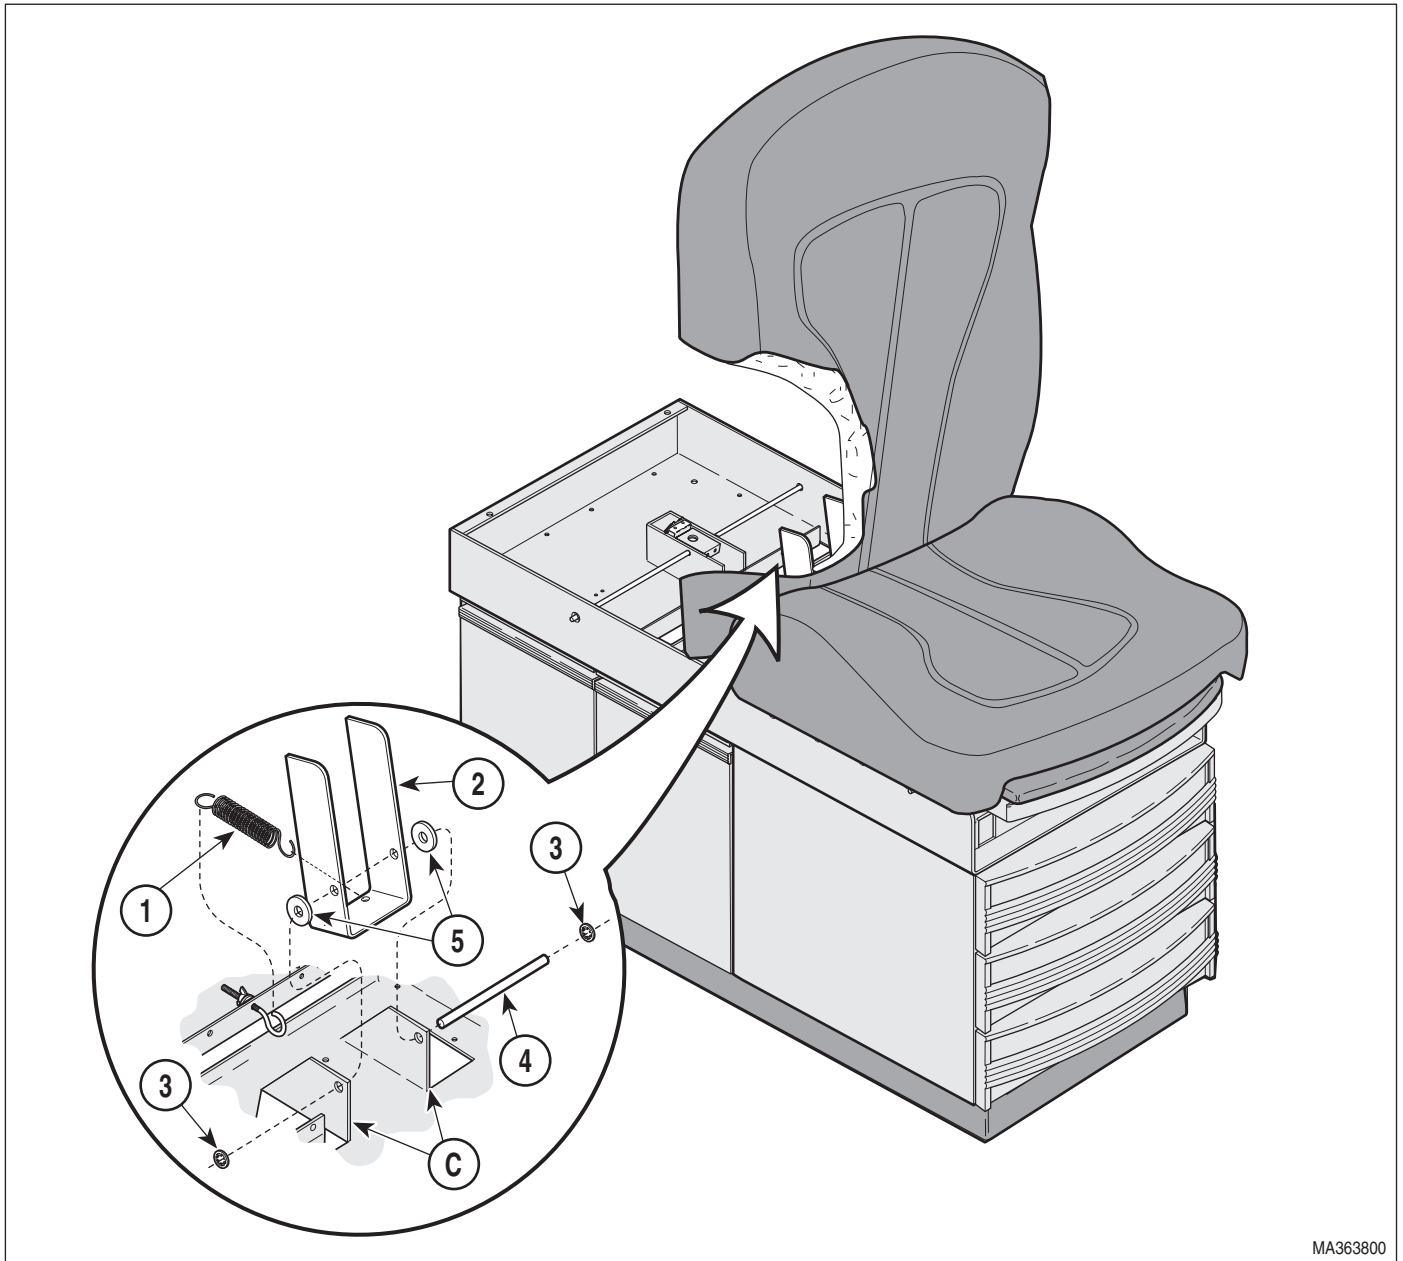

Figure 4-9. Lift Lever Removal / Installation
(5) Remove the four screws (10) that secure the upper wrap cover (9) to the upper wrap weldment (7) and remove the upper wrap cover.
(6) Disconnect the lift springs (1, Figure 4-9) from the lift lever (2).
(7) Remove the push-on retaining ring (3) from one side of the lift support rod (4) and remove the rod (4), washers (5), and lift lever (2) from the upper wrap weldment brackets (C).
- (1) Place the lift lever (2, Figure 4-9) and two flat washer (5) in position on the upper wrap weldment brackets (C).
- (2) Insert the lift support rod (4) thru the brackets (C), flat washers (5) and lift lever (2).
- (3) Insure the lift support rod (4) is centered in the bracket (C) and install the push-on retaining rings (3).
- (4) Connect the lift springs (1) to the lift lever (2).